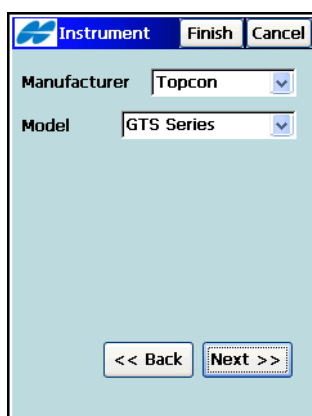

Figure 4-69. Instrument
3. In the **Instrument** screen, enter the manufacturer and model of the device, then tap **Next** (Figure 4-69 on page 4-54). Note that the models shown in the list correspond to the chosen type of survey. To simulate a real survey, select Manual Mode. In this mode, no measurements are performed, all the data is entered manually.